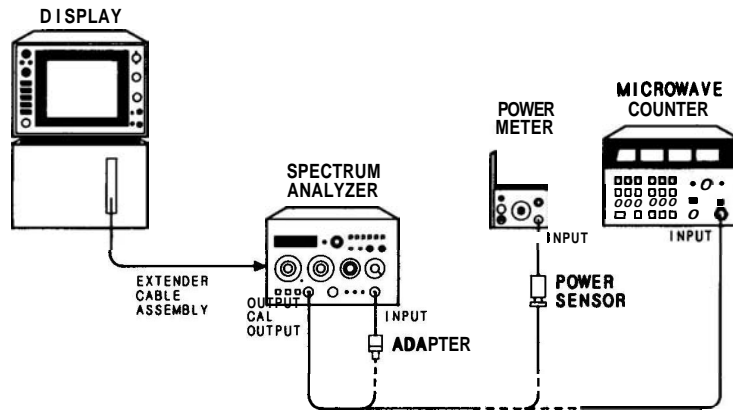

FIGURE 5-20. CAL OUTPUT AND REF LEVEL CAL ADJUSTMENTSTEST SETUP
2. Connect power **meter/power** sensor to front-panel CAL OUTPUT connector as shown in Figure 5-20.